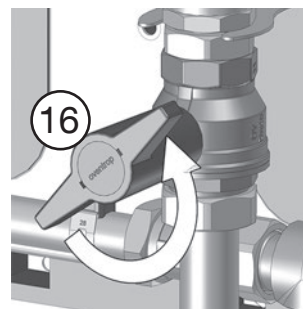

Fig. 5.9: Open the isolating ball valve in the supply of the storage cylinder circuit
13. **Open the isolating ball valve (16)**. Heating water enters the station (Fig. 5.9).